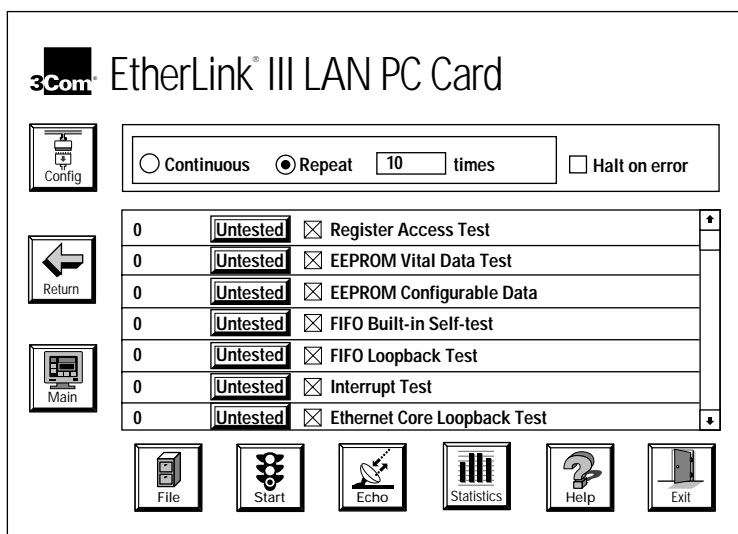
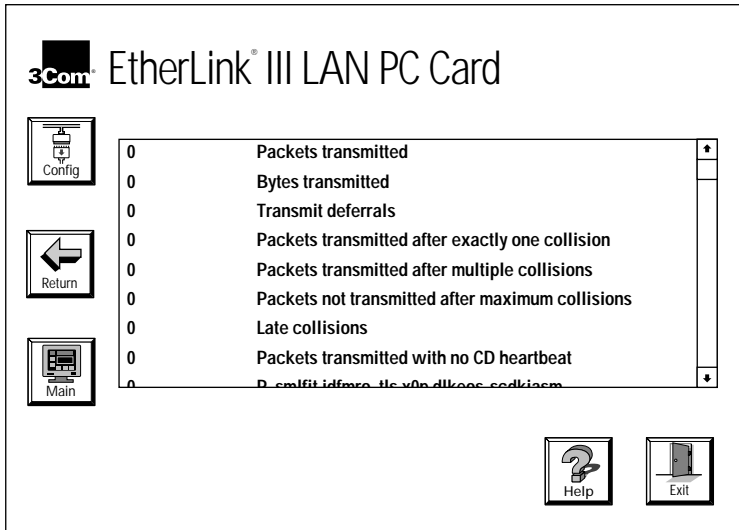

Figure 6-3 Diagnostic Program Screen
Figure 6-5 Statistics Screen
The Diagnostic Program screen appears, as shown in Figure 6-3, with all tests selected to run.
The Diagnostic Program screen appears on both PCs, as shown in Figure 6-3.
- 4 Click *Echo*, shown in Figure 6-3, on the echo server computer.**
- 6 Click *Start*, shown in Figure 6-3, on the echo server.**
- 7 Click *Start*, shown in Figure 6-3, on the computer to be tested.
To display the statistics, click *Statistics* on the Diagnostic Program screen, shown in Figure 6-3. The Statistics screen appears, as shown in Figure 6-5.